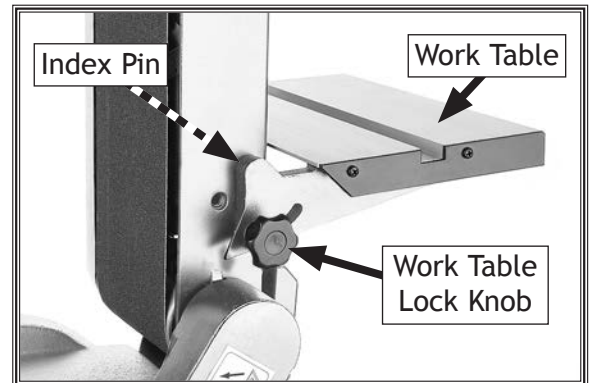

Figure 21. Work table installed on sanding bed in vertical position.
5. Insert index pin of work table into mounting hole in sanding bed (see **Figure 21**).
6. Insert table lock knob (with washer) through slot in work table and into threaded hole in sander body (see **Figure 21**).